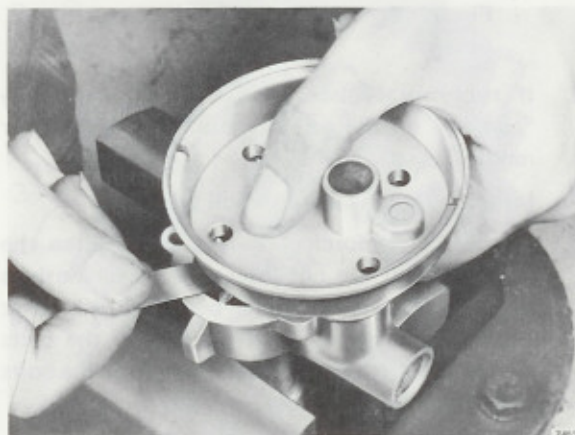

Fig. 22-7. Measuring the axial clearance
8. Measure the axial clearance which should be 0.02–0.10 mm (0.0008–0.0039") with a feeler gauge, and a new cover or the old one if it is not notably worn, Fig. 22-7.